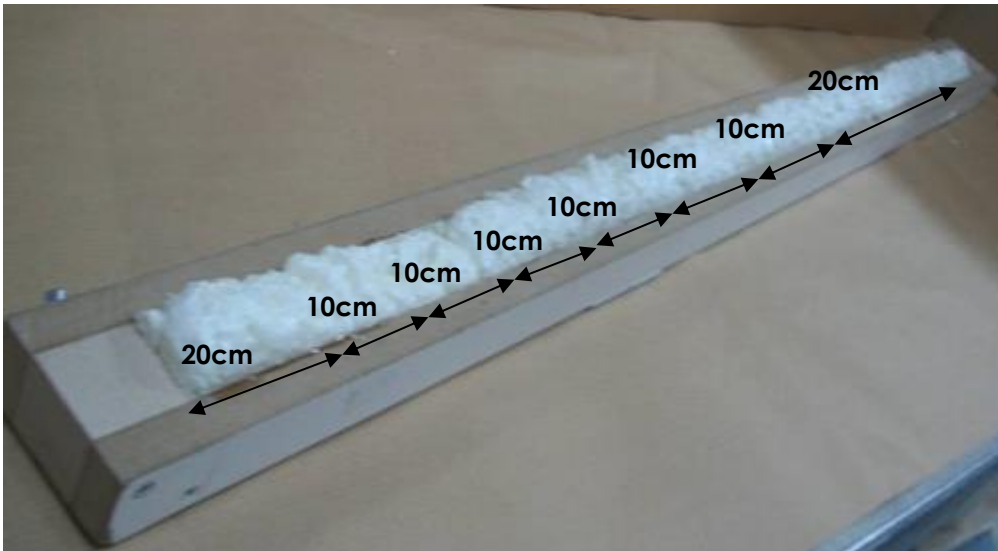
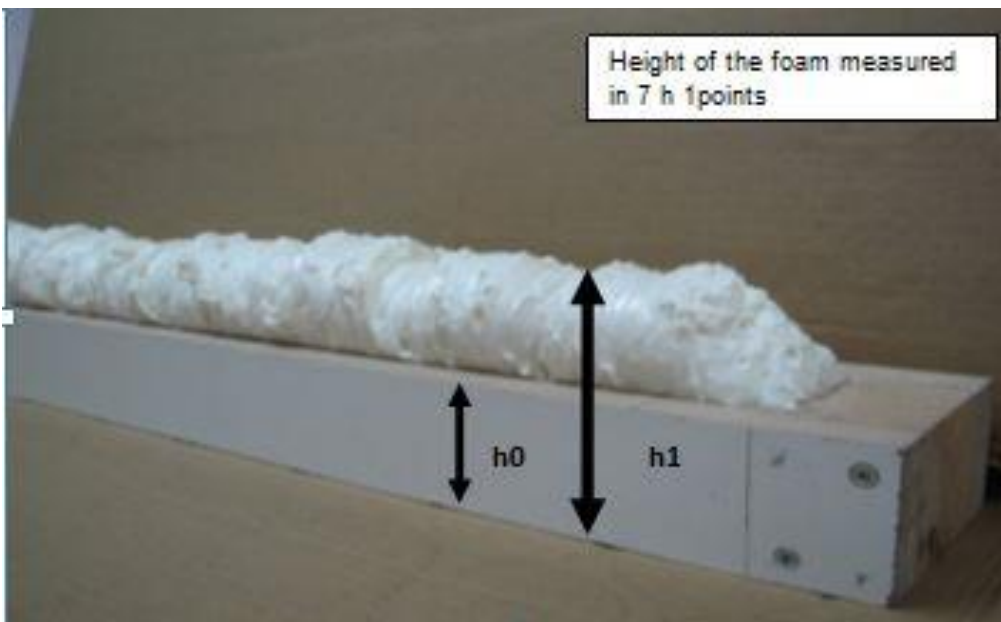

Fig. 3: Foam ready to be measured
Fig. 4: Foam ready for measurement
- m) Measure the height of cured foam in seven points by the use of range finder or caliper (h_1). The measuring points should be always in the same position e. g. every 100 mm (Figure 3 and figure 4).